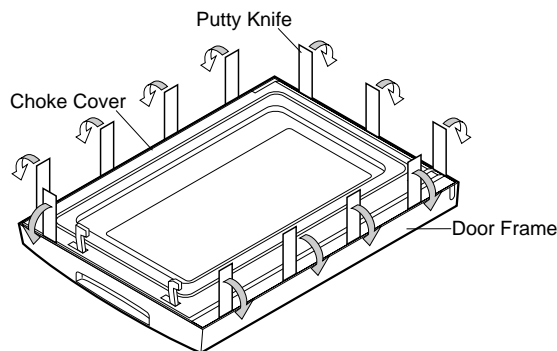

Figure C-5. Door Disassembly
4. Remove the two (2) screws holding the front cover to the base plate.
5. Remove the front cover from the oven cavity by releasing the three (3) tabs.
7. Insert a putty knife (thickness of about 0.5mm) into the gap between the choke cover and door frame as shown in Figure C-5 to free engaging parts.
8. Pry the choke cover by inserting a putty knife as shown Figure C-5.